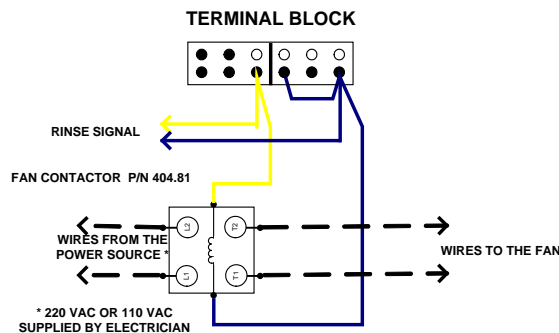

Figure 2.2.10
**Note:** Wires for exhaust fan to be supplied by electrician. (See Figure 2.2.10)